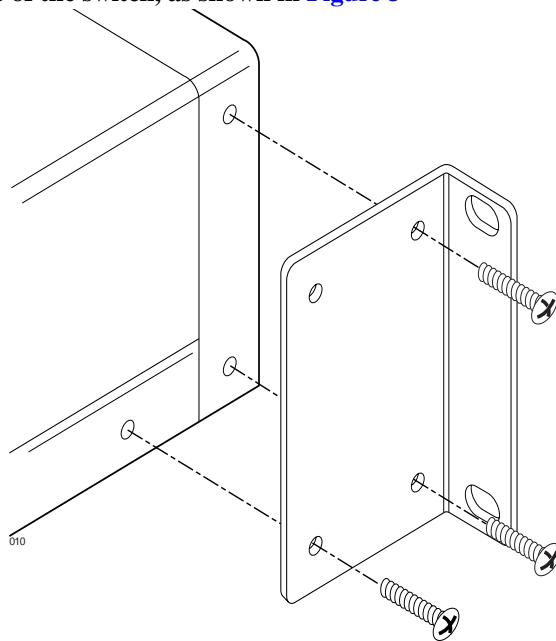

Figure 3 Position Mounting Brackets for Rack Mount
3. If mounting the unit in an equipment rack, first connect the two mounting brackets to the side of the switch, as shown in **Figure 3**